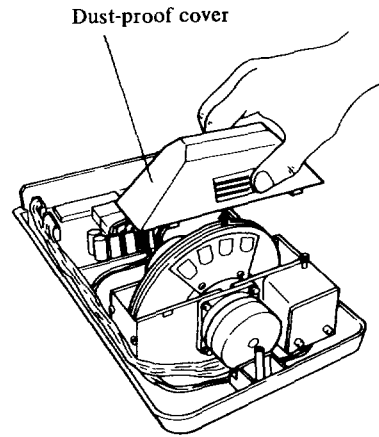

Fig. 6-7
- 2 Turn OFF the main switch. Then, remove the upper cover and lift the dust-proof cover straight up to remove as shown in Fig. 6-7.